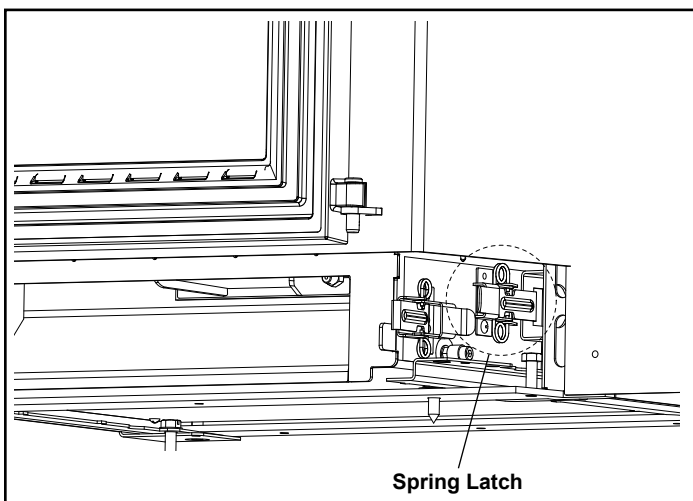

Figure 3.16
Once the unit is shut down and cooled, unplug the unit from its power supply. Behind each side panel release (1) spring latches that holds the unit to the inserts cage. Figure 3.16.